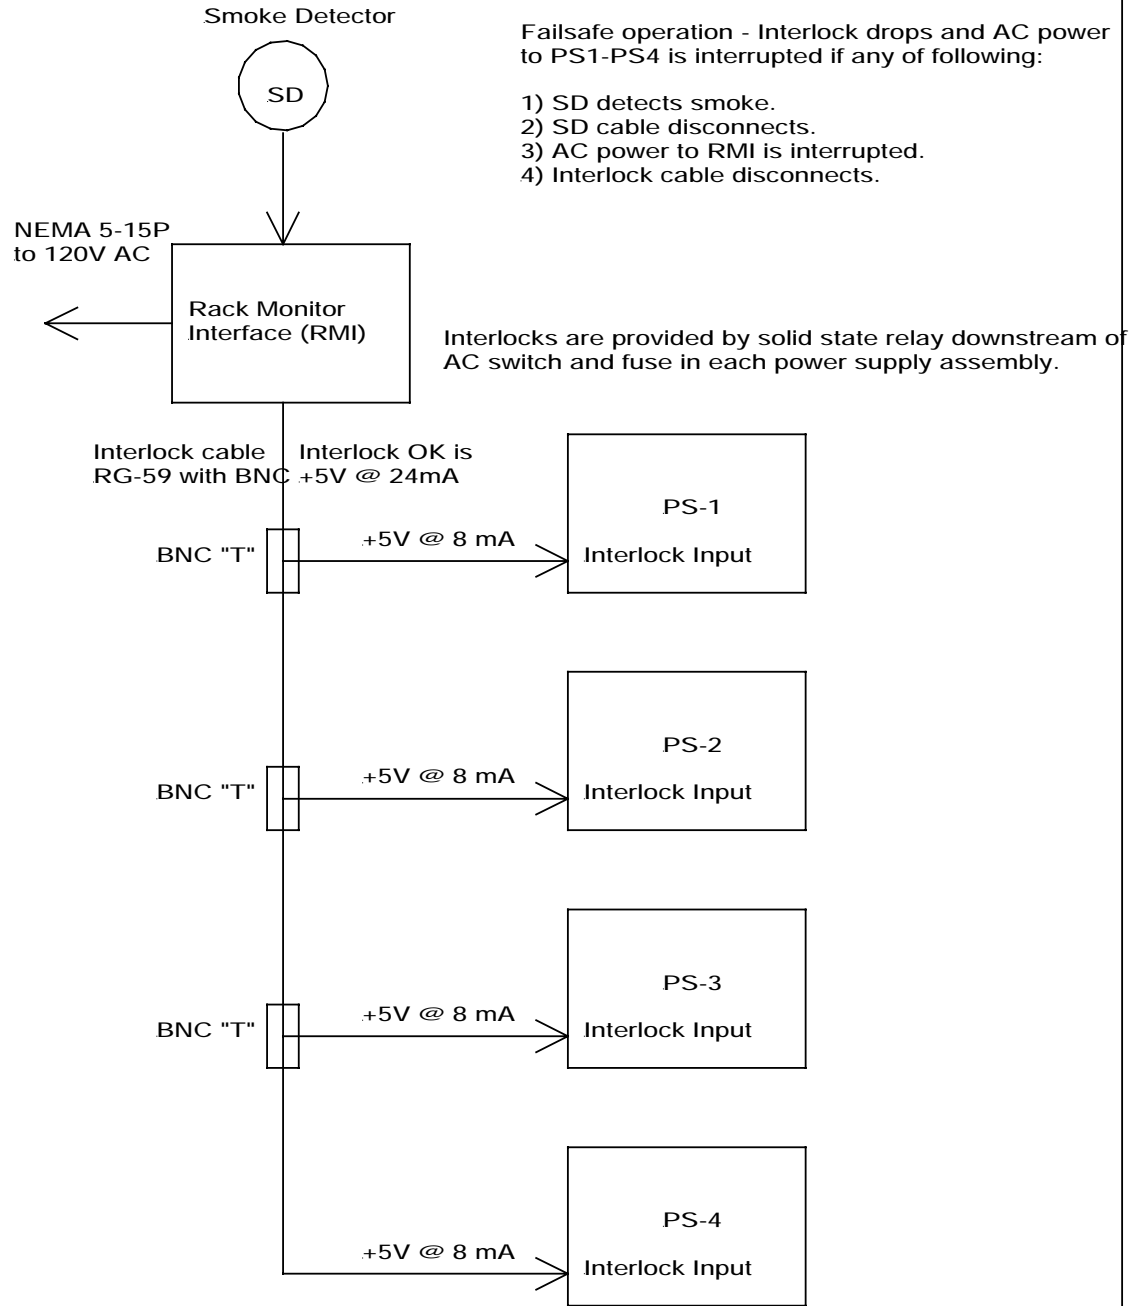

Figure 6
**Fire Protection:** The relay rack is fitted with side panels and rear door. The AC inputs in the four VME power supply assemblies are interlocked6 to a smoke detector located in the top of the rack as shown in figure 6.